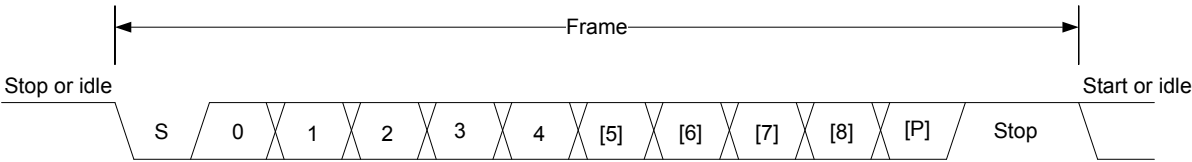

Figure 21.2. Frame Format
The frame format used in asynchronous mode consists of a set of data bits in addition to bits for synchronization and optionally a parity bit for error checking. A frame starts with one start-bit (S), where the line is driven low for one bit-period. This signals the start of a frame, and is used for synchronization. Following the start bit are 7 to 9 data bits and an optional parity bit. Finally, a number of stop-bits, where the line is driven high that indicates the end of the frame. An example frame is shown in Figure 21.2 Frame Format on page 645.